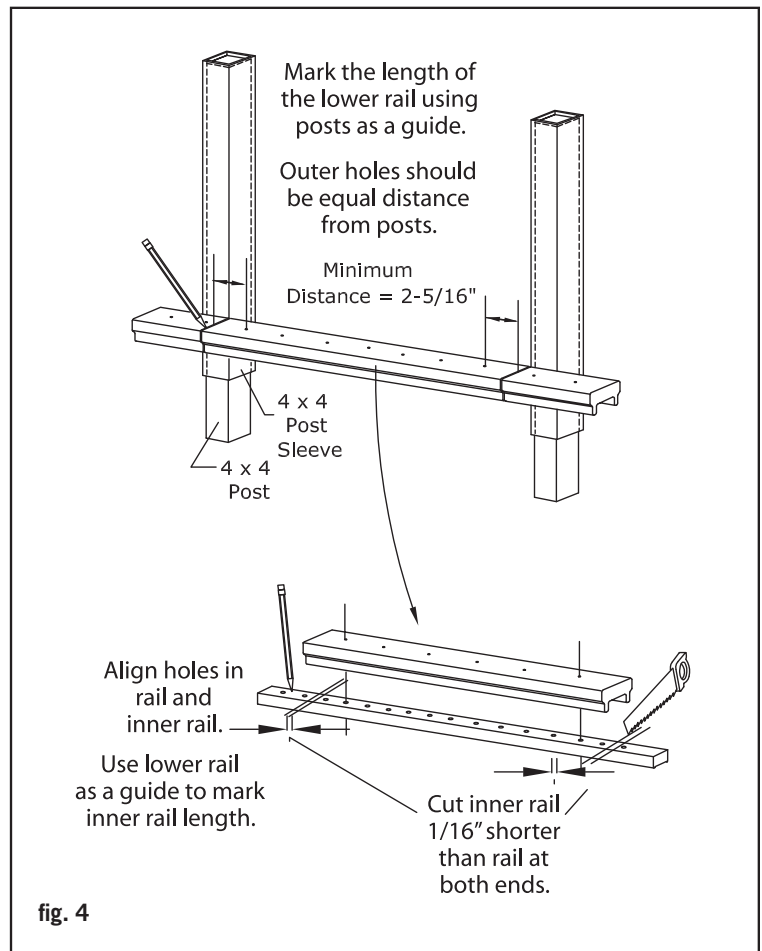

fig. 4
Step 7: **Note! To ensure the balusters are installed plumb, the holes between the rail sections must all be aligned. Tip: Use a gauge pin or a 3/32" drill bit to ensure the holes are aligned.** Using the trimmed lower rail as a guide, set one inner rail in the trimmed bottom rail and align the pre-drilled holes. Mark the cut lines on the inner rail with a pencil. **Note! To allow for the thickness of the brackets, the inner rails should be 1/8" shorter than the outer rails with all holes equally spaced.** Remove an additional 1/16" from the pencil mark on each end and trim the inner rail to length. Repeat for the second inner rail (fig. 4).